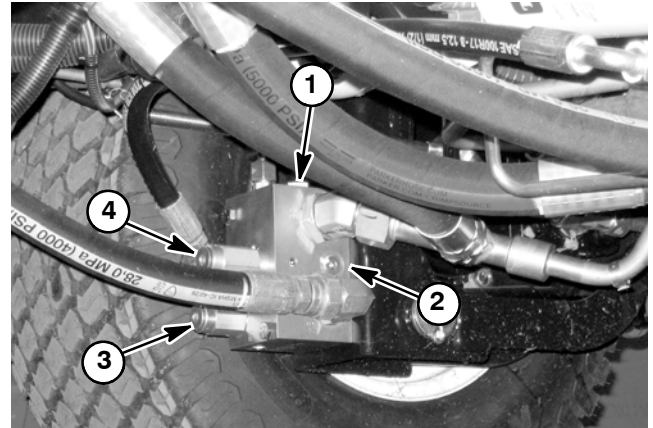

Figure 32
2. Locate rear traction manifold that is attached to the front frame next to the left side front wheel (Fig. 32). Remove #6 zero leak plug on the inside of rear traction manifold and install diagnostic fitting (Toro part number 59-7410) into manifold port.
5. Sit on seat, apply brakes fully and slowly depress the traction pedal in the reverse direction. While pushing traction pedal, carefully monitor the pressure gauge to identify the opening pressure of the pressure reducing (PR) valve:
7. The pressure reducing (PR) valve is located on the rear side of the rear traction manifold (Figs. 32 and 33). If test pressure is incorrect, adjust pressure reducing (PR) valve (see Adjust Control Manifold Relief Valves in the Adjustments section of this chapter). Recheck pressure reducing valve pressure after any adjustment.